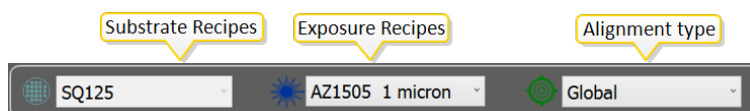

Figure 3-103 Quick selection bar
3. Select alignment type **Global** in the quick selection bar, see **Figure 3-103 below**.